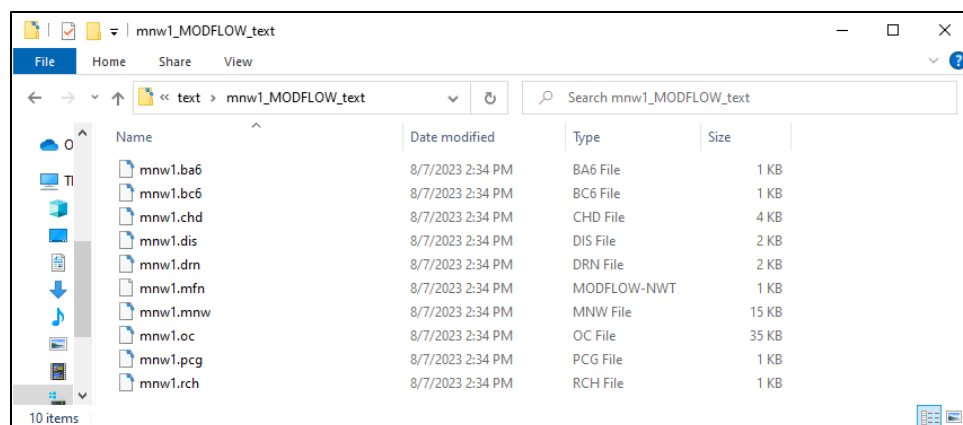

Figure 7 Native text MODFLOW files saved From GMS
2. Browse to the `text\text\mnw1_MODFLOW_text` directory to bring up the MODFLOW native text files (Figure 7).